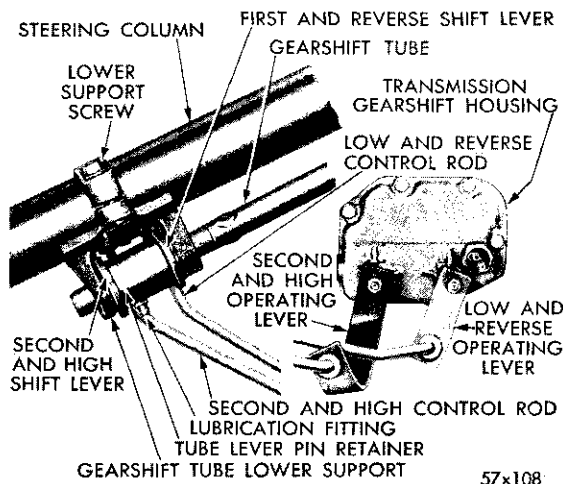
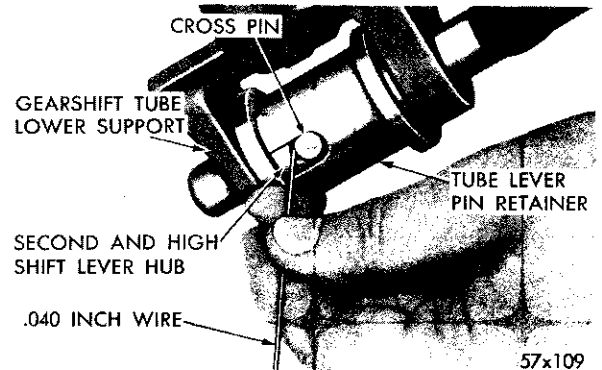

Fig. 17—Gearshift Control Adjustment
Fig. 18—Gearshift Crossover Adjustment
6. GEARSHIFT CONTROL ADJUSTMENTS (Fig. 17).
Before making the crossover adjustment the gearshift lever shaft must be in its normal fully returned position in neutral. After removing lubrication fitting (Fig. 17) from the tube lever pin retainer, rotate retainer until gearshift tube cross pin is exposed (Fig. 18). If a .040 inch feeler (round) gauge cannot be inserted between the gearshift tube cross pin and the bottom of the slot in second—direct shift lever hub, as shown in Figure 18, an adjustment at